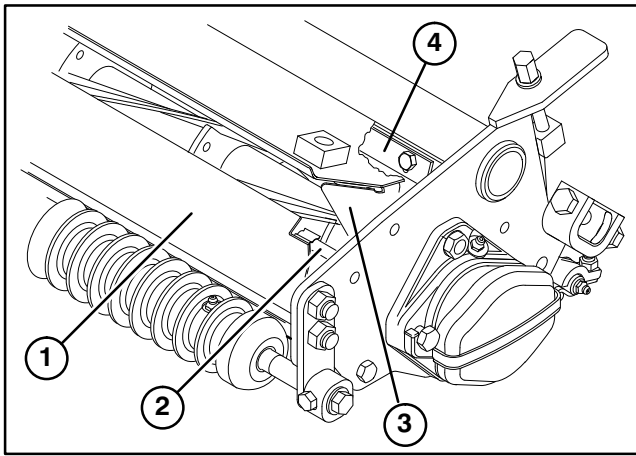

Figure 3
1. Modify cutting unit shields (Fig. 3) as follows: